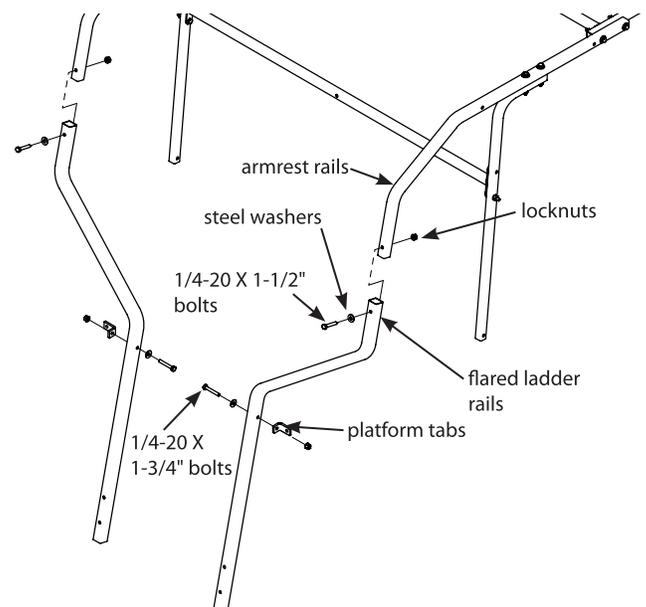

Figure 3
5. Insert the armrest rails into the flared ladder rails (14121). Secure parts together using (2) provided 1/4-20 x 1-1/2" bolts, locknuts and steel washers. **SEE FIGURE 3.**
6. Attach (2) platform tabs (14123) to the outside of flared ladder rails using (2) provided 1/4-20 x 1-3/4" bolts, locknuts and steel washers. **SEE FIGURE 3.**